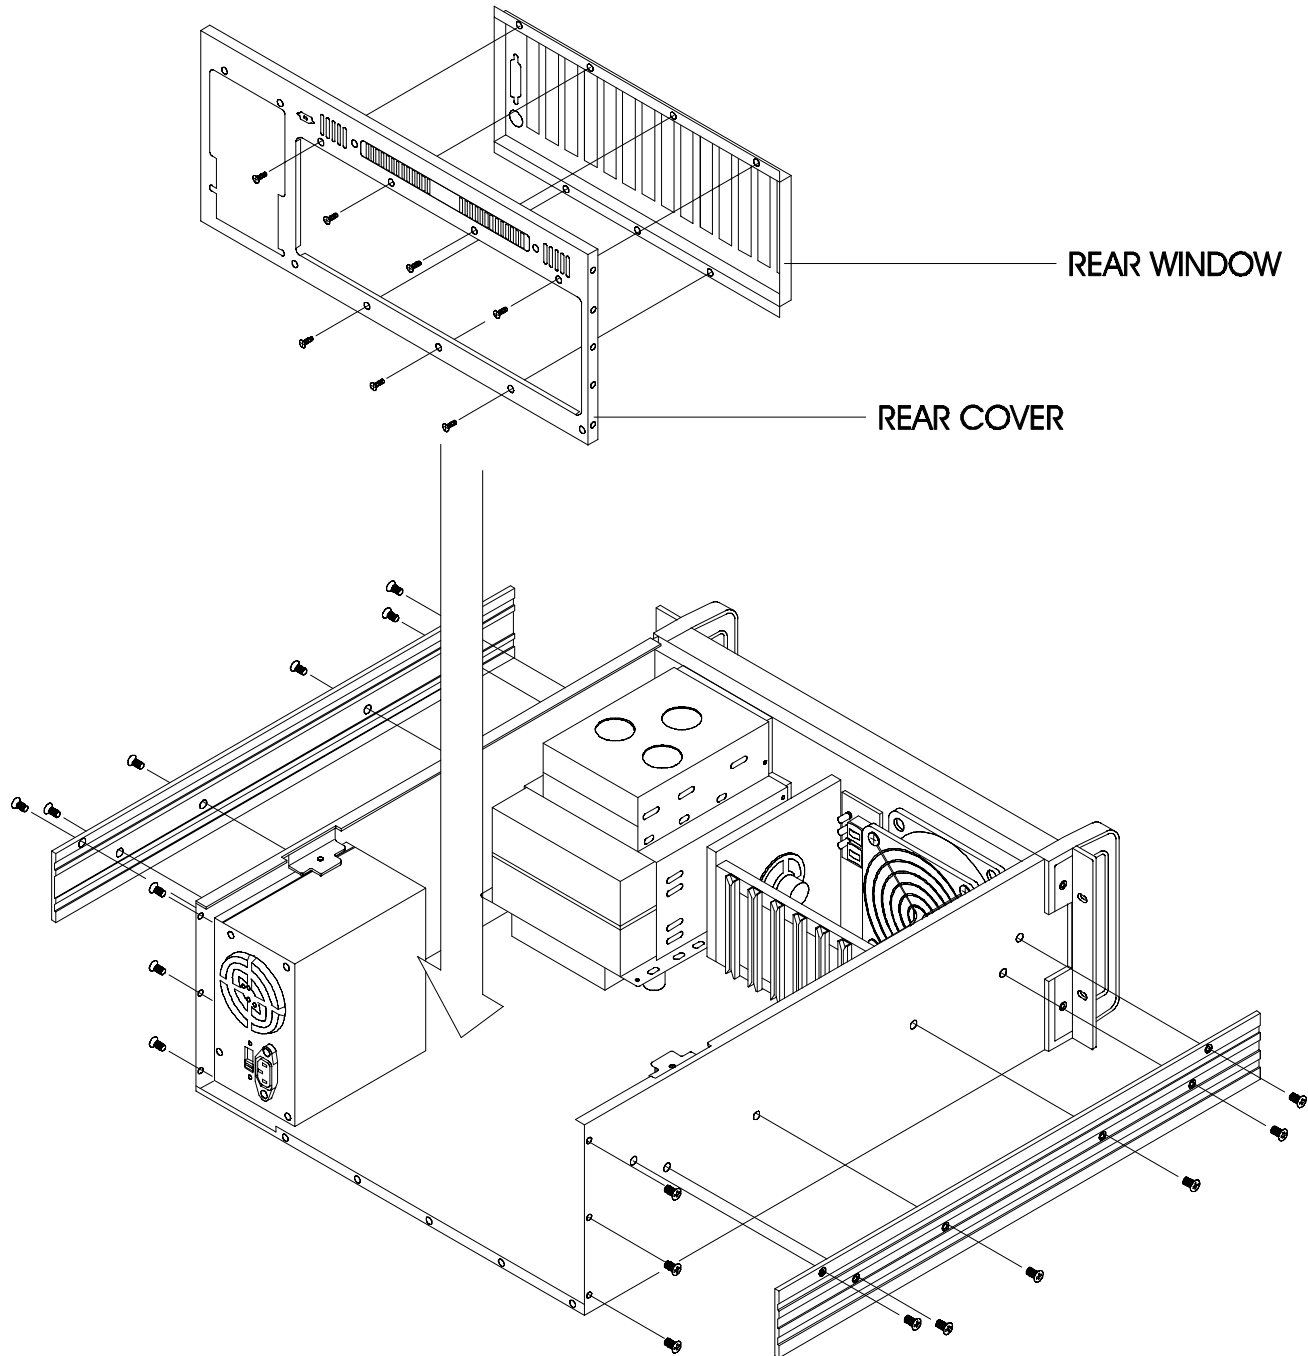

Figure A-3: Rear window of IPC-610 for standard 14-slot backplane, with PS/2 size power supply
2. To change the backplane's rear window, see Fig. A-3.